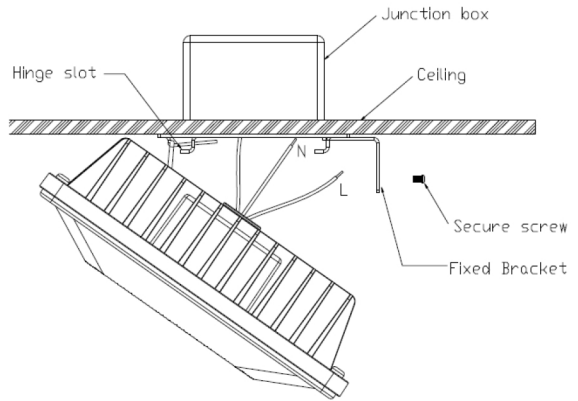

FIG. 5
3. Install Fixture to mounting bracket by slipping the Back Steel Rod into Hinge slots, and remove your hands from Fixture allowing it to rest in Hinged position (see FIG. 5).